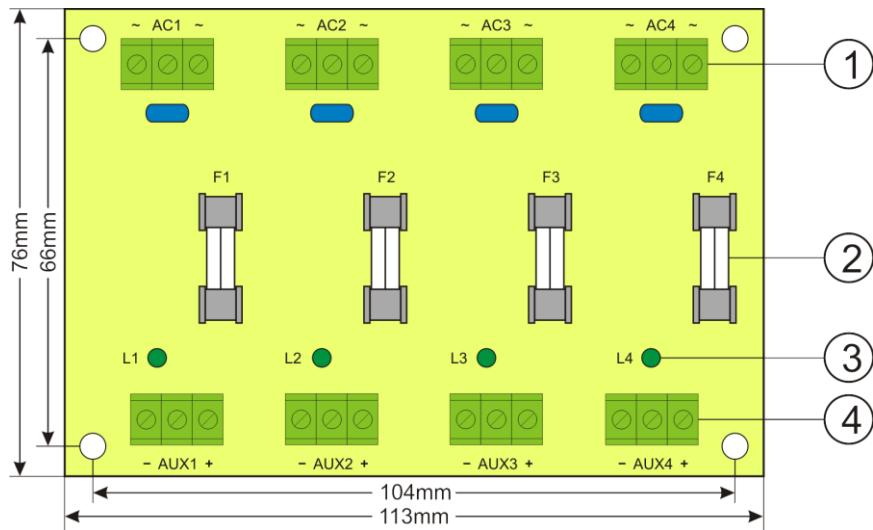

Fig. 2. The view of the LP4/SEP strip.
1.3 Description of components and connectors of the power supply (Table.1, Fig. 2).**Table 1. Components of the LP4/SEP strip (see Fig. 2).**